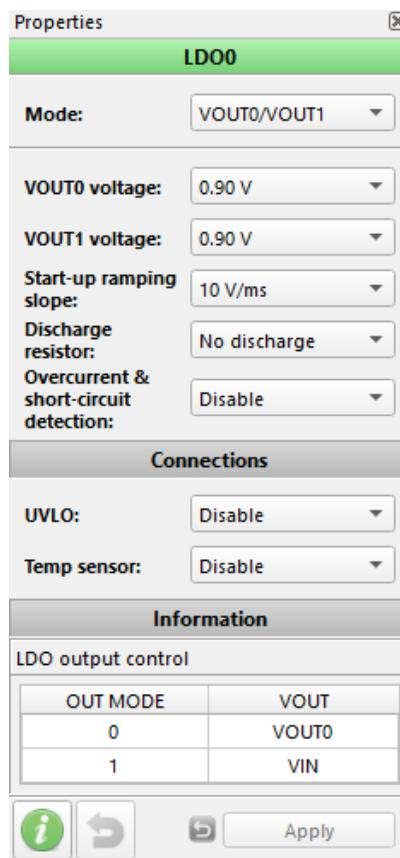

Figure 2: LDO Property Menu
The SLG46580 incorporates the configurability of GreenPAK ICs into LDOs by providing numerous programmable features. These LDOs have three modes of operation: bypass mode, high power (HP) mode, and low power (LP) mode. While LP and HP mode are both LDO regulator modes, bypass mode operates as a simple power switch connecting VIN to VOUT. Inside the LDO's property menu, you can select between "VOUT0/VOUT1" or "VOUT0/PWR switch" modes as shown in Figure 2. In "VOUT0/VOUT1" mode, you can select between regulating at VOUT0 or VOUT1 based on the LDO's VOUT0/VOUT1 matrix connection. A digital LOW will select VOUT0 while a digital HIGH will select VOUT1. Similarly, in "VOUT0/PWR switch" mode, you can select between VOUT0 and Bypass mode.